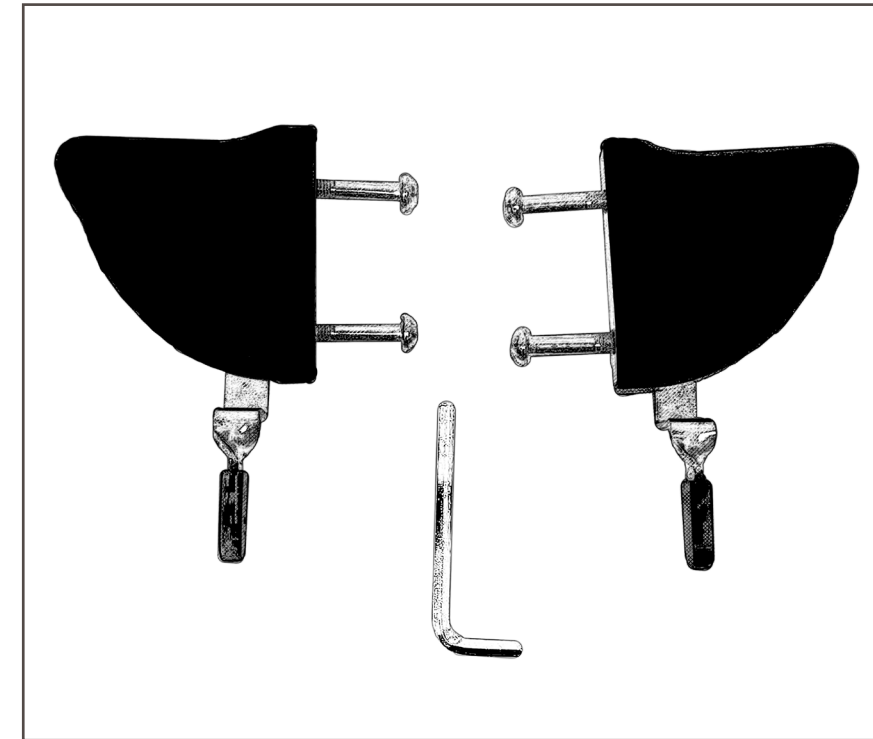

Figure 12
1. Unpack polybag and check that all parts are included (Fig. 12)